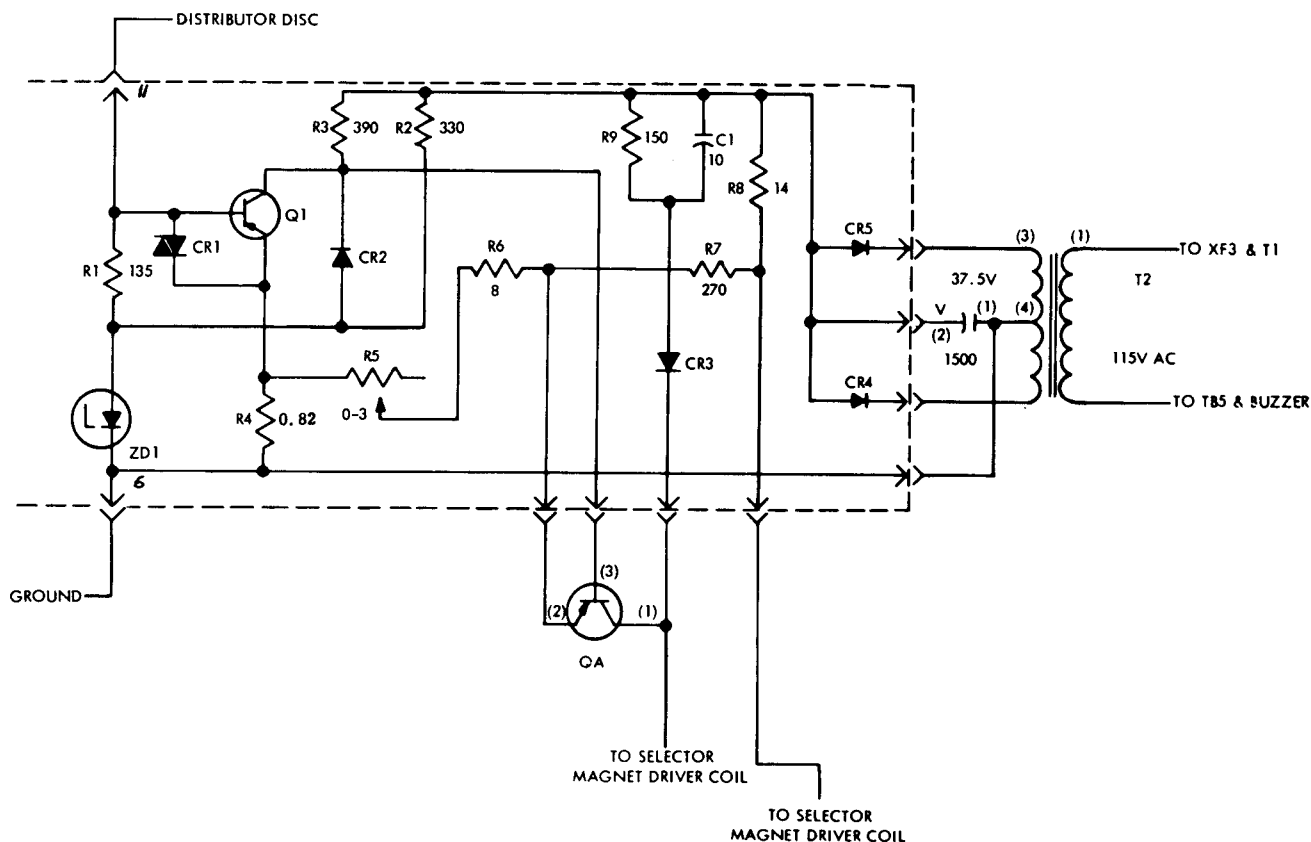

Figure 6 - Selector Magnet Driver Circuit
3.15 The selector magnet driver circuit (Figure 6), combined with an external power transformer, and a filter capacitor, provides 0.500 ampere current for driving the selector magnet from a telegraph signal source of appropriate input line current. The input signals are applied through terminals 6 and 11, with R1 determining the switching level.